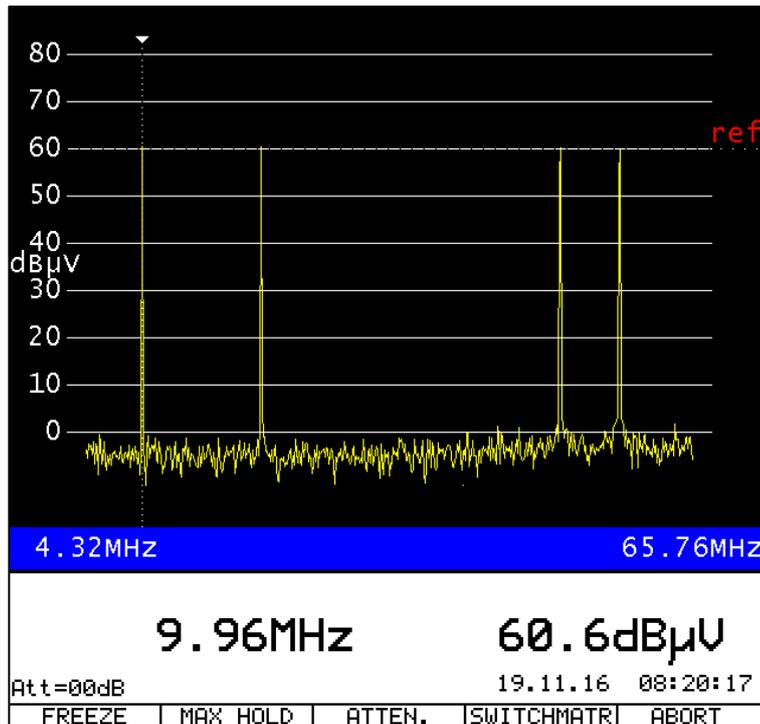

Figure 10-2 HARDCOPY of the graphics screen with added LC display content
- Figure 10-2 HARDCOPY of the graphics screen with added LC display content 57